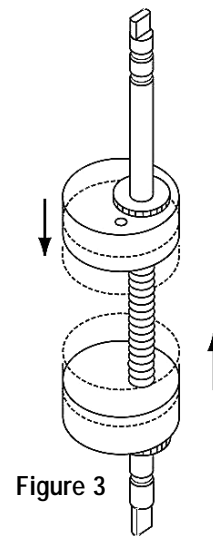

Figure 3
3. To adjust the limits, lift or depress cam against spring to disengage splines and turn cam until switch activates/deactivates as desired (Figure 3).